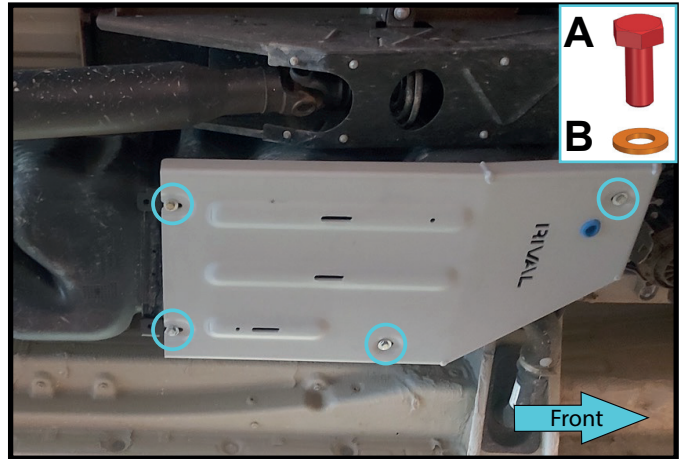

Fig. 8
8. Fix the fuel tank skid plate part 1 (item 1) using bolts M8x25 (item A) with washers 8 (item B) as shown in fig.8.